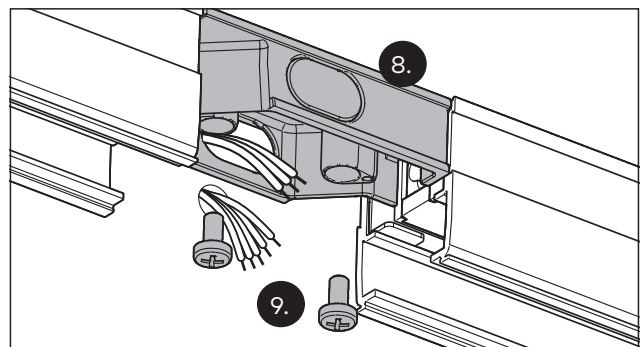

Fig. 17 Mounting the upper finger guard
8. Insert the upper finger guard (Fig. 17).
9. Tighten the screws on the upper finger guard (Fig. 17).